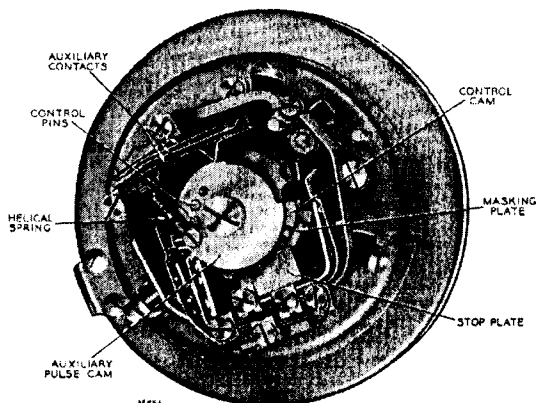

FIG. 20.—TRIGGER-TYPE DIAL FOR USE ON
19. A rear view of a Dial, Automatic, No. 13 showing the names of the auxiliary parts is given in Fig. 20.